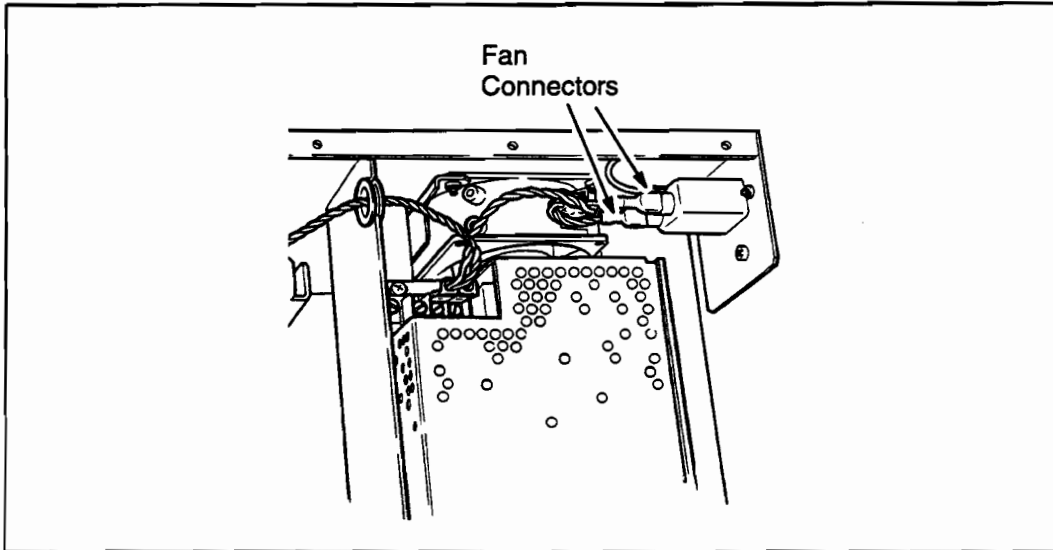

Figure 6-106. VRC Fan Wiring
1. Switch the plotter OFF (O) and disconnect the ac power cord.
4. Note the orientation of the fan(s) and the associated wiring. Remove the electrical connection from the fan(s). See Figure 6-106.